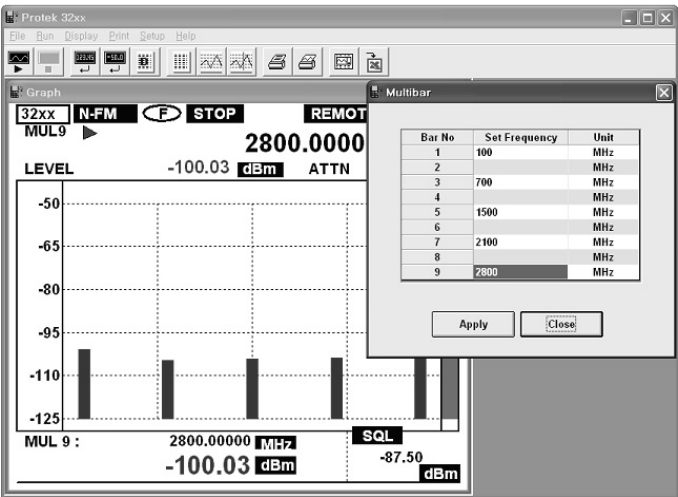

Figure 4.14. Set MULTI MODE FREQUENCY
The setup method is that when Ste Frequency column of line is selected, the mouse point is changed to input. As below figure 4.14, user can put the input value. For example for 3290N, if the input value is over 100 kHz to 2900MHz, Message Box is displayed and has to setup again. If the Apply button is selected, the Bar as like figure 4.14 will be showed.
- 2) Main menu set up → Select port set as figure 4.14 execute port setting window.